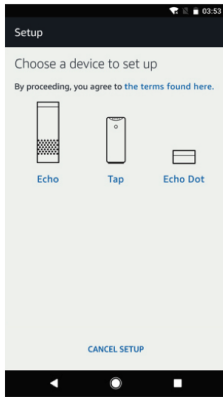
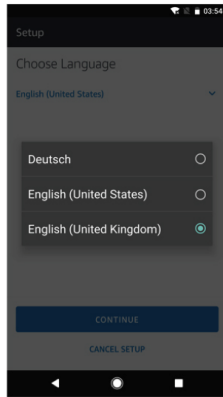
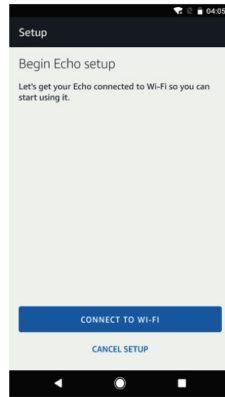

fig.6
fig.7
fig.8
- Select your Echo device (fig.6), choose the appropriate language (fig.7), and then tap “CONNECT TO WI-FI” (fig.8)